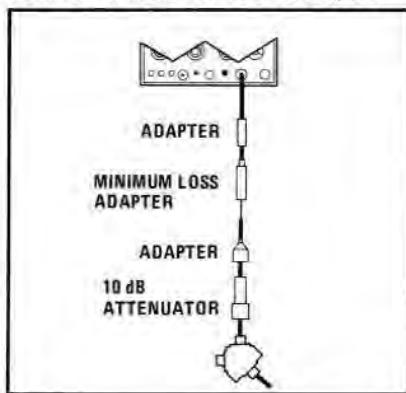

FIGURE 5-4. SLOPE ADJUSTMENT TEST SETUP
- Connect equipment as shown in Figure 5-4.